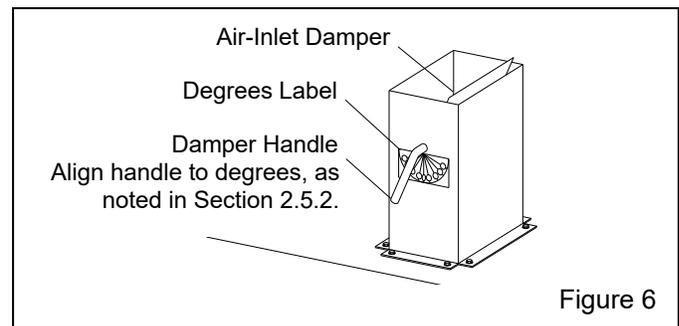

Figure 6
**2.5 Set Air-Inlet Damper – Figure 6**